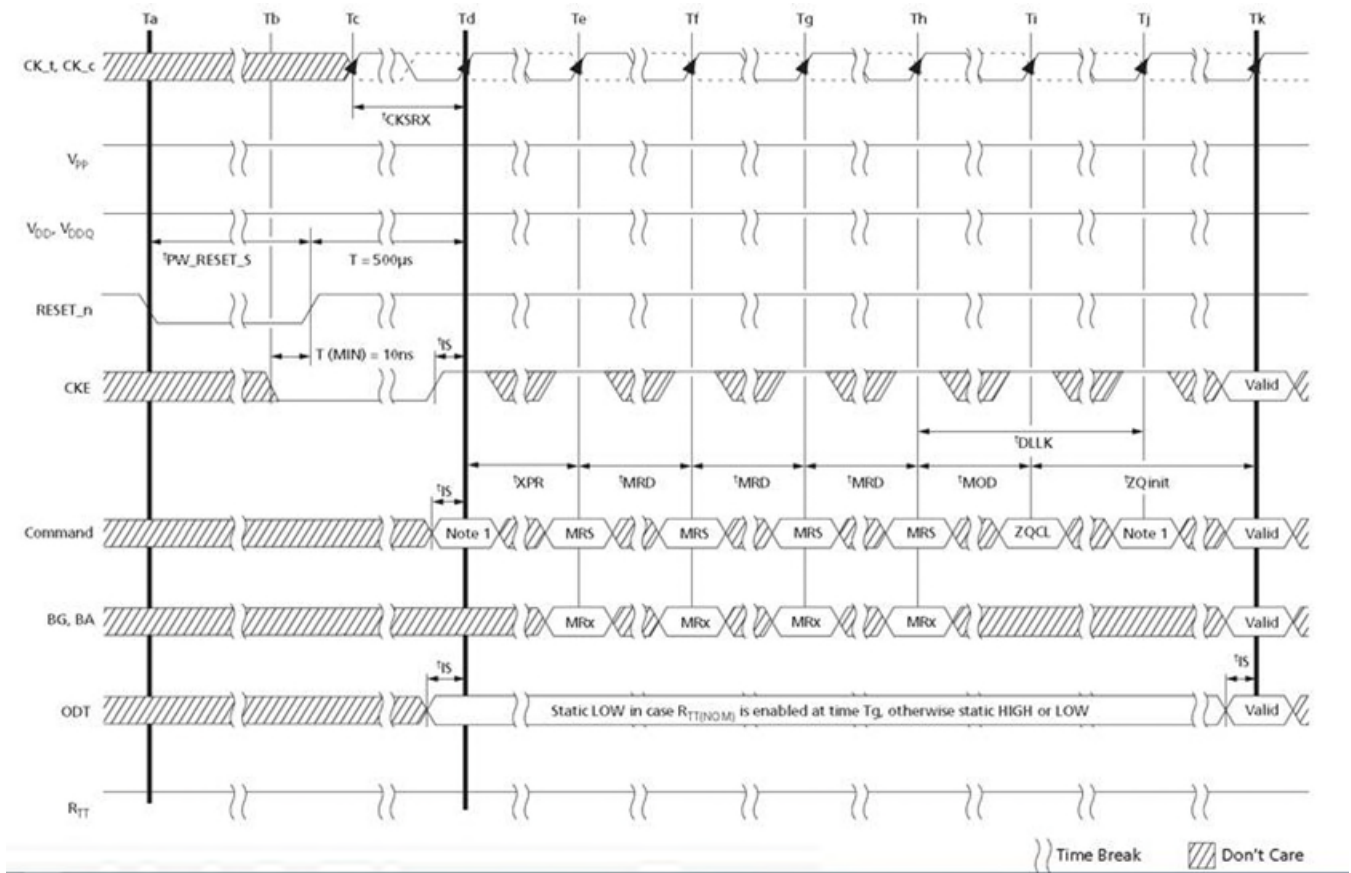

Figure 14: RESET Procedure at Power Stable Condition
7. See RESET Procedure at Power Stable Condition (figure 14).
10. Input signal must meet VIL/VIH(AC) to meet tIS timings and VIL/VIH(DC) to meet tIH timings.
11. The AC peak noise on VREF may not allow VREF to deviate from VREFCA(DC) by more than ±1% VDD (for reference: approximately ±12mV).